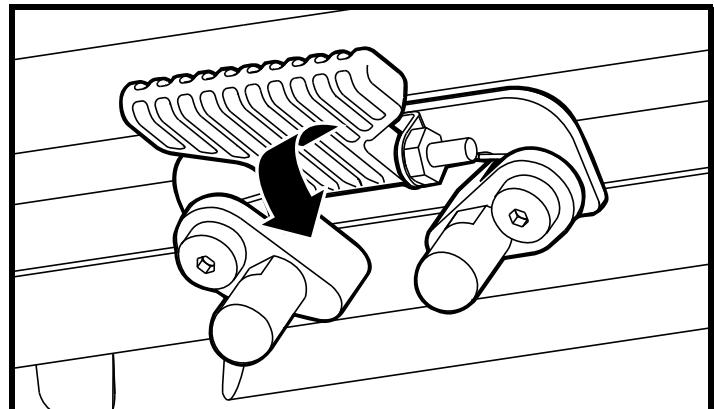

Figure 11. Seat Latch Safety - Latched
4. Flip the seat latch safety down. **See figure 11.**